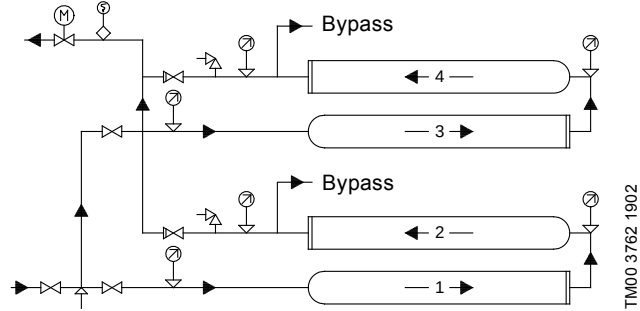

Fig. 8 Booster system with two modules connected in series and in parallel, mounted above each other
- For modules connected in series and parallel, mounted above each other, we recommend to connect the pipes as shown in fig. 8.